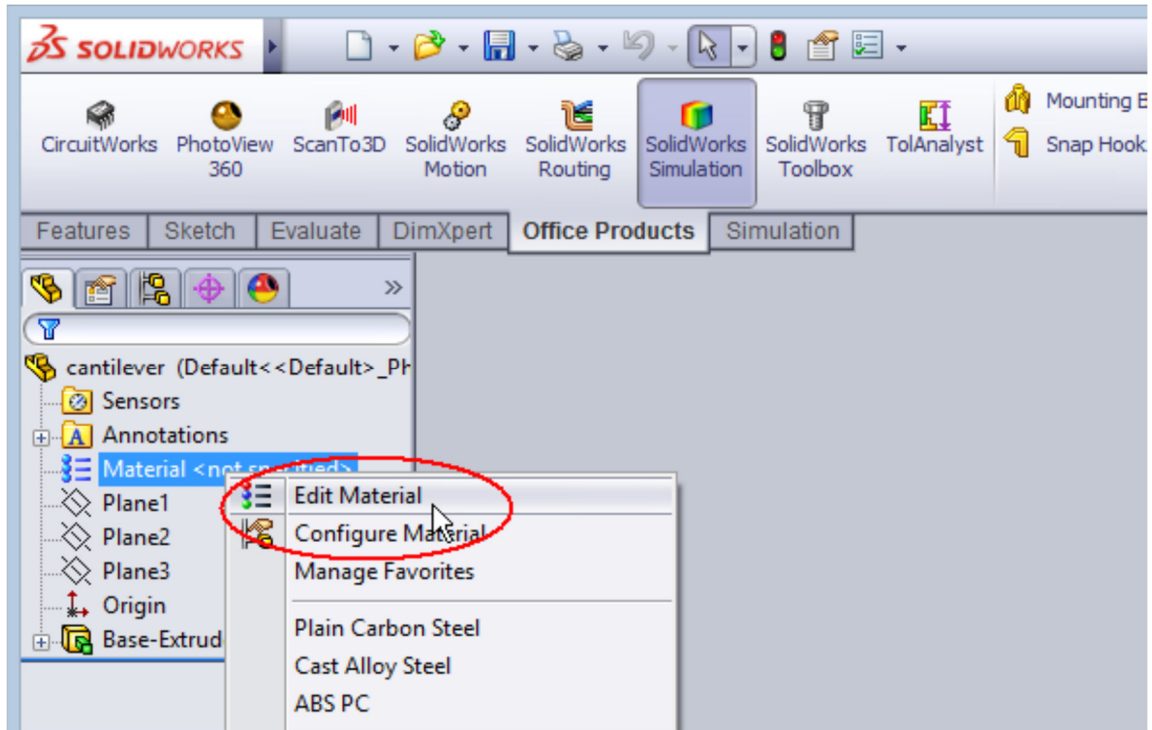

Figure 11.
- II. Then right-click “Material <not specified>” and then “Edit Material” (Figure 11.)